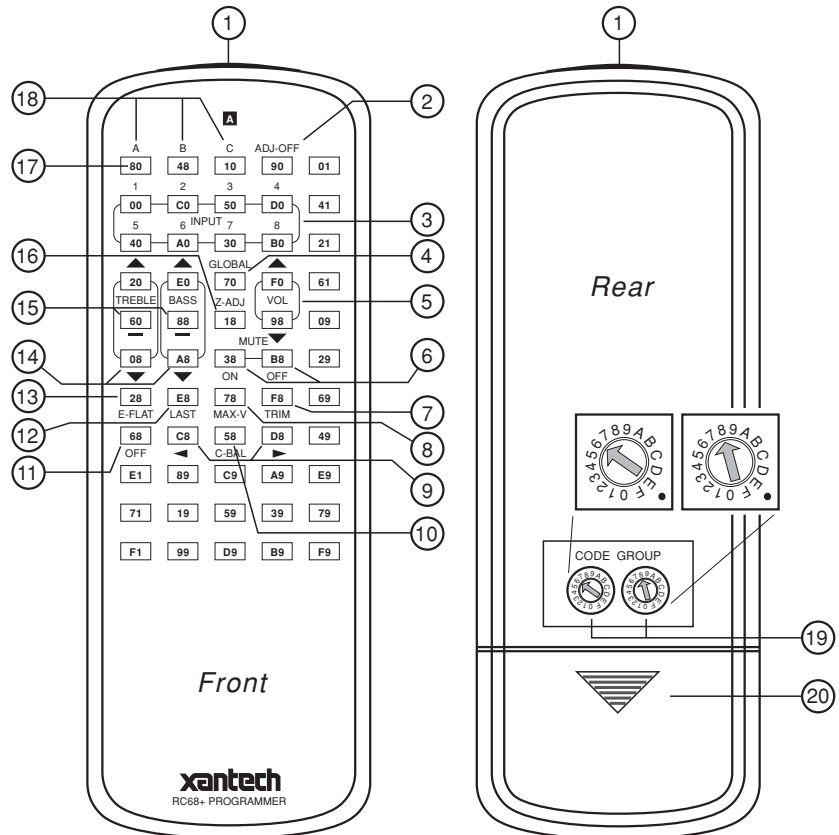

FIG. 3 RC68+ Itemized Functions and Features
3. Turn the remote over and locate a Code Group number that is different than any other Xantech model used in the same system (i.e., 48, D0, C0, etc.). These numbers are printed on the **front face** of each RC68+ button! (See item #17, **Fig. 3**).